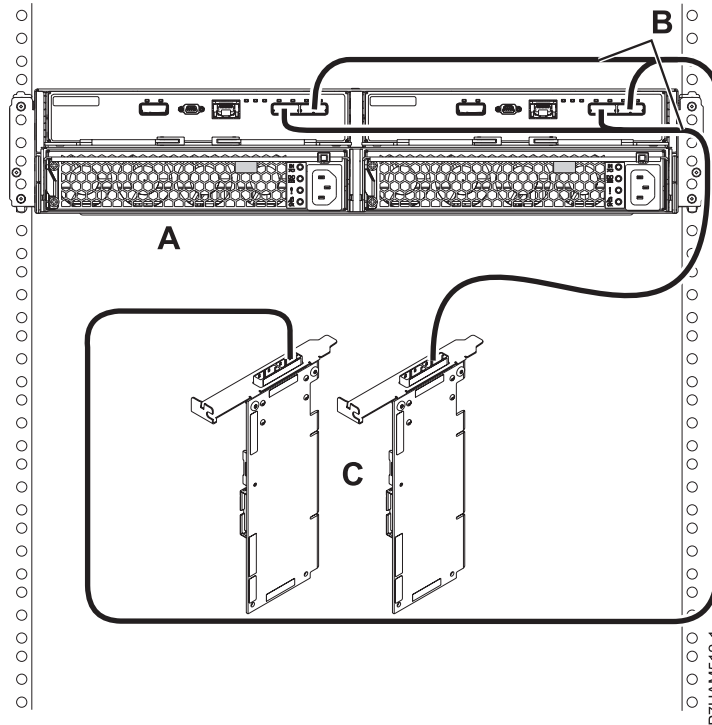

Figure 29. Mode 1 connection of one 58/87 disk drive enclosure by using YO cables to a SAS adapter pair
- j. Perform the mode 1 connection of one 58/87 disk drive enclosure (A) by using YO cables (B) to a SAS adapter pair (C) as shown in Figure 29 on page 26.